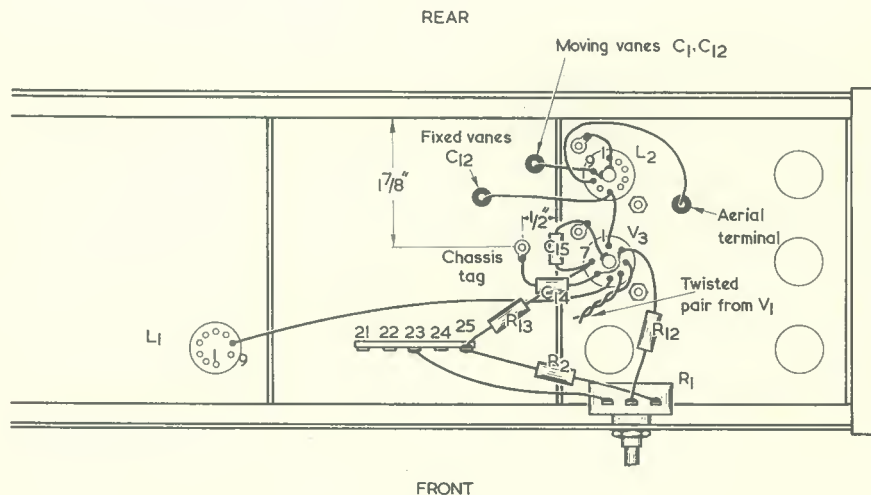

Fig. 4. Final steps in the wiring of the r.f. stage
25. Turn the chassis round again and refer next to Fig. 4. It will be found that a long insulated wire connects pin 8 of L_1 valveholder to the lead-through insulator coupling to the aerial terminal. Unsolder this wire at the lead-through insulator and move it out of the way for the time being.
26. Fit L_2 valveholder (B9A) and V_3 valveholder (B7G) with the orientation shown in Fig. 4, and ensuring that two chassis solder tags are mounted under the securing nuts in the positions illustrated. Fit R_1 potentiometer in the Chassis Rail U-slot which is in line with these two valveholders, and with its tags away from the chassis underside (i.e. towards the reader). Fit a K402 knob to R_1 . The spindle of R_1 is, of course, already of the correct length.
32. Using a 6BA nut and bolt, fit a 6BA chassis solder tag to the underside of the Chassis Plate on which the 2-gang tuning capacitor is mounted so that it takes up the approximate position shown in Fig. 4. Connect C_{14} between this tag and pin 6 of V_3 valveholder. Solder at the chassis tag. (The chassis
41. Following the route shown in Fig. 4, and using insulated wire, connect pin 8 of L_2 valveholder to the lead-through insulator from the aerial terminal. Solder at pin 8 and the lead-through insulator.